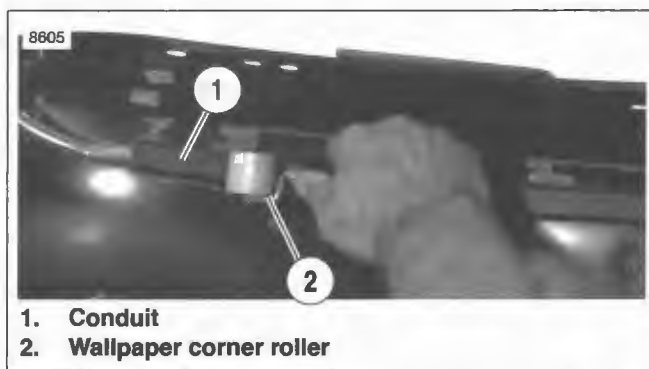

Figure 2-148. Purging Air Between Adhesive and Fender
8. See Figure 2-148. Using a wallpaper corner roller (available at most home improvement stores), roll along conduit to purge the air from between the adhesive and the fender.